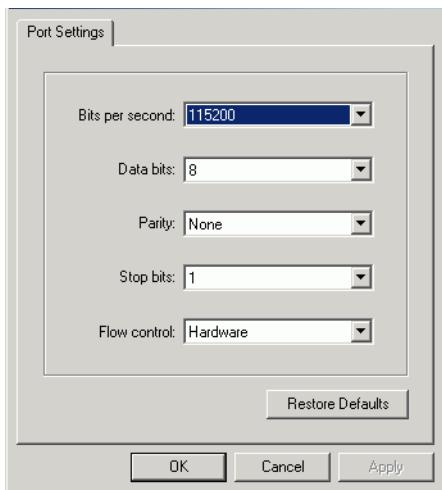

Figure 10 Port Settings dialog box
6. Ensure that the Connect using field displays COM1 or COM2 (depending on the serial communication port connection to the switch), and click **OK**. The Port Settings dialog box is displayed (Figure 10).